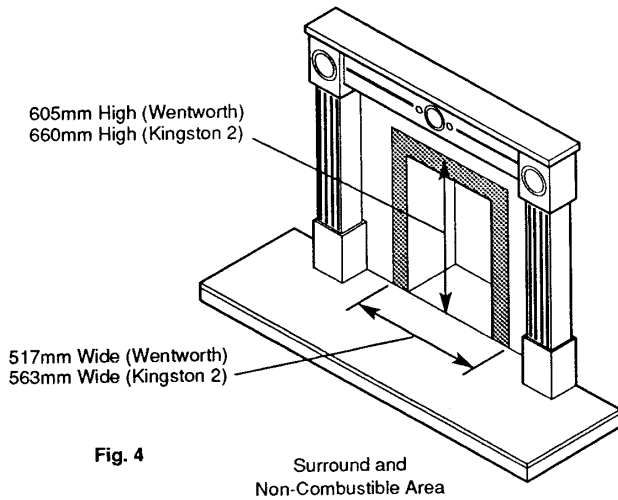

Fig. 4
3. The fireplace must have a flat vertical surface measuring 605mm (23 13/16 in) high by 517mm (20 1/8 in) wide (Wentworth) or 660mm (26 in) high by 563mm (22 5/32 in) wide (Kingston 2), centrally placed about the opening. This allows an effective seal to be made between the wall and fire. **Also this area must be of non-combustible material.** If a fire surround is to be fitted its rear section must meet the same requirements. Any gaps between the wall and surround must be sealed (Fig. 4).